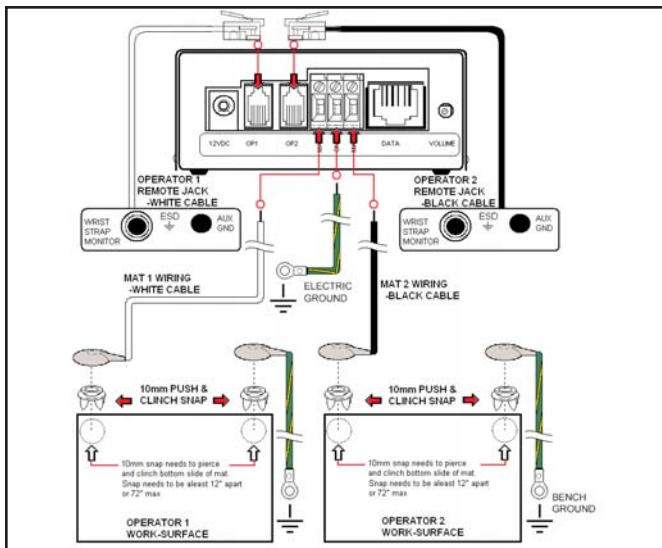

Figure 3. Installing the Dual Wire - Dual Operator Programmable Monitor
- E. If not already done, attach the work surface to workstation common point ground using the pictured ground wires. For mats, attach the grounding point snaps at the ends of the ground monitor cords to the grounding point snaps on the work surface. These ground monitor cords are used for sensing whether or not the unit is properly grounded. Refer to figure 3 for snap-plate fitting diagram and for laminates or other hard surfaces with a buried conductive layer.